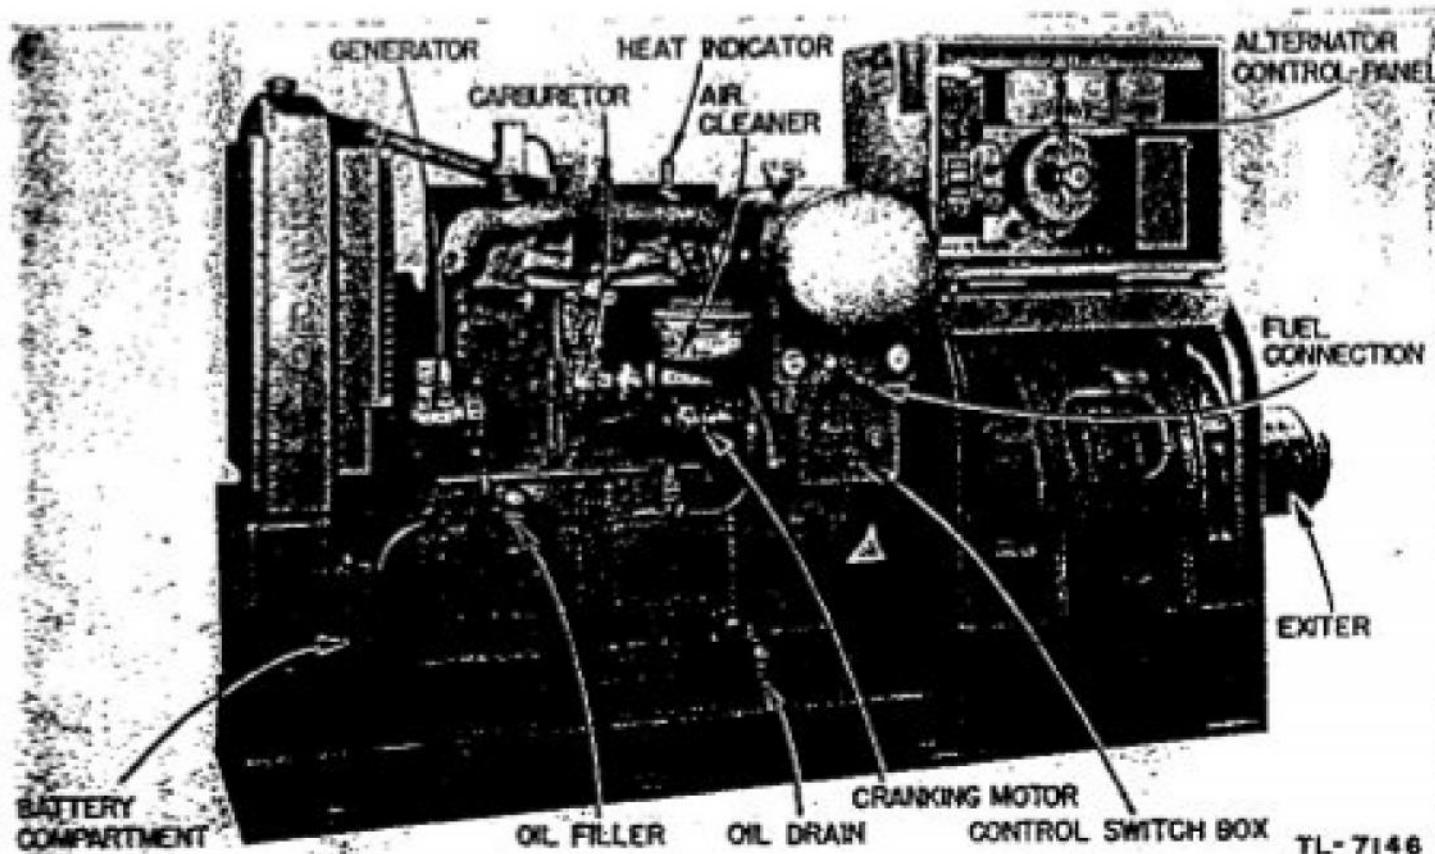

Figure 1. Power Unit PE-84-(*), carburetor side.
a. POWER UNIT PE-84-(*)¹. Power Unit PE-84-(*) is a portable, self-contained, gasoline-electric power plant, consisting of a four-cylinder engine, directly connected through a full-metallic flexible coupling to an alternator (a-c generator). The entire unit, including radiator, engine, generator, and generator-control panel, is mounted on an electrically welded steel subbase. A 15-gallon gasoline tank is mounted over the flywheel housing. (See figs. 1 and 2.) The engine is equipped with a fuel pump for supplying gasoline to the carburetor from either this tank or from drums of gasoline which may be placed alongside the generator set. The valve which connects the tank to the fuel pump is located